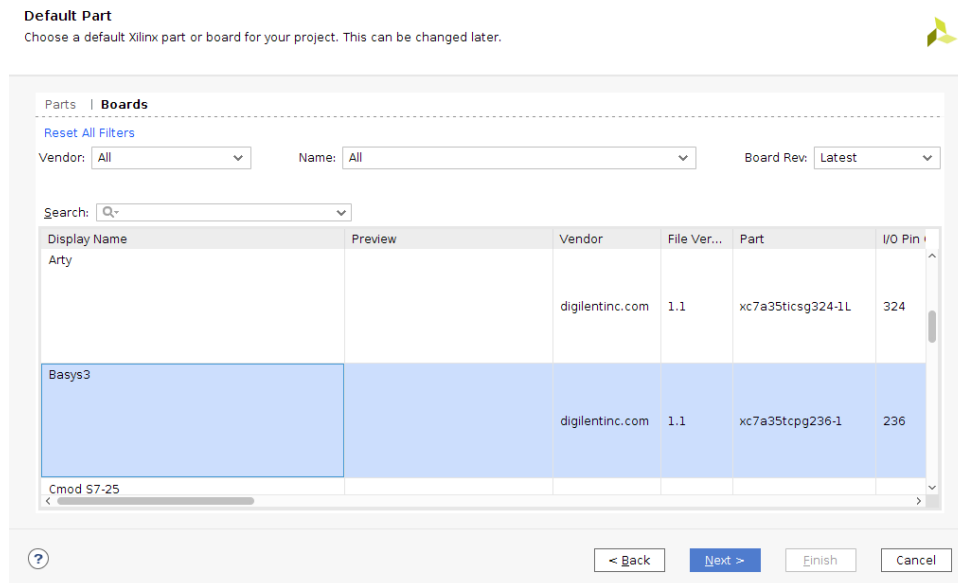
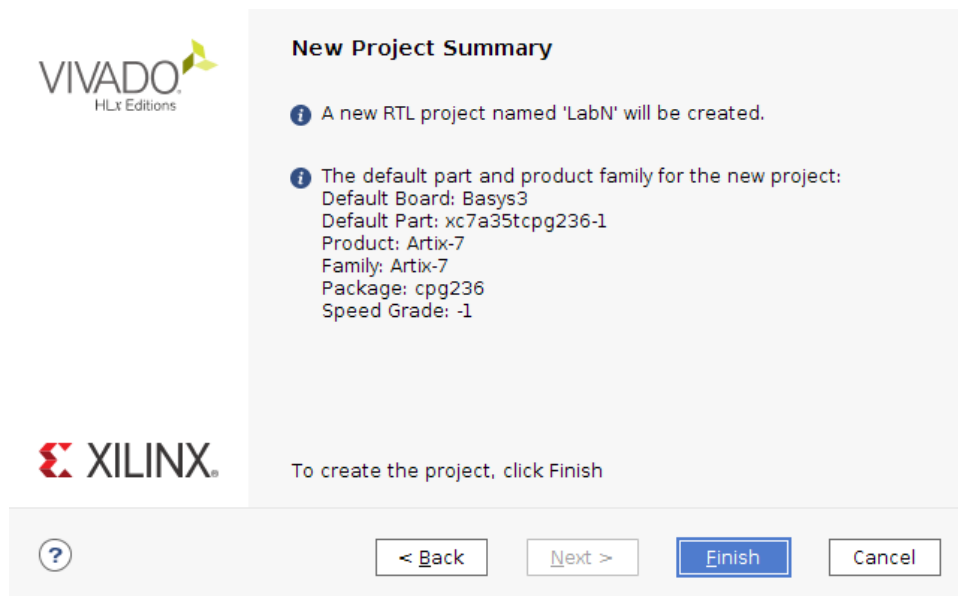

Figure 4 FPGA device parameters.
Figure 5 Project summary
3. In the window shown in Figure 4 you have to specify the FPGA device that we use for the lab. First select the boards tab and then select Basys 3. Press “Next >” and you should now see a summary of your project as shown in Figure 5. Press “Finish”.